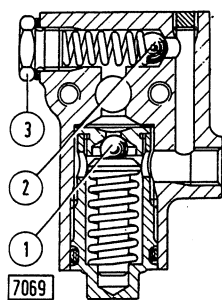

Fig. 8 - Valve block section.
To this end, following the adjustment, remove plug (3, Fig. 8) insert a pressure gauge and check that with the steering wheel completely turned in one direction and then in the other and with the engine running
- stop engine, remove the plug (3, Fig.8) from the valve block (B), replace with adaptor 291325 (threaded M 14x1.5) and connect the latter to a pressure gauge (ex.pressure gauge with scale 0-250 Kg/cm² of the universal kit 291314) ;
- start engine, run it at medium speed or turn the steering wheel to left or right to stop ; under these conditions the pressure relief valve (1) opens and the pressure gauge reading should correspond to valve setting (95 to 100 Kg/cm² = 1359 to 1422 p.s.i.); if the pressure reading differs appreciably from the value above, replace the pressure relief valve as an assembly, as separate components are not given as spares.